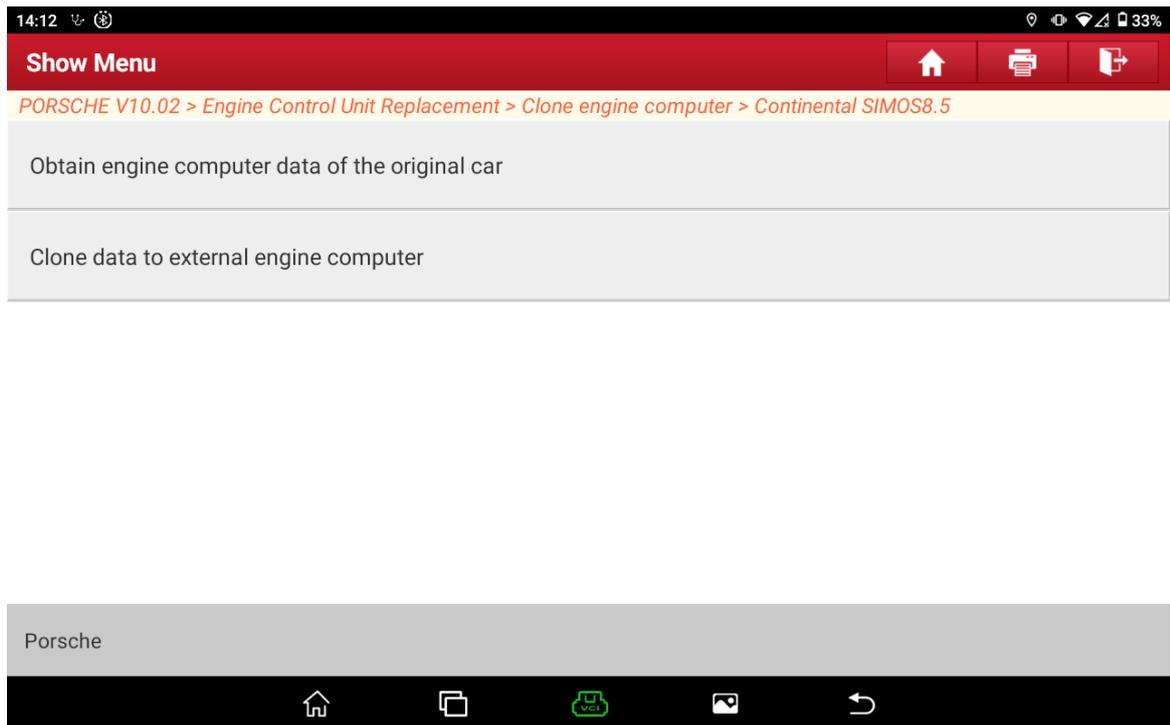

Figure 1
2. Here take the use of X431 PRO Anti-theft matching tool expert version as an example, enter the Porsche Anti-theft software (need to connect the Immobilizer programmer G3), select **【Engine Control Unit Replacement】** -> **【Clone engine computer】** -> **【Siemens SIMOS85】** , the current menu is shown in Figure 1: